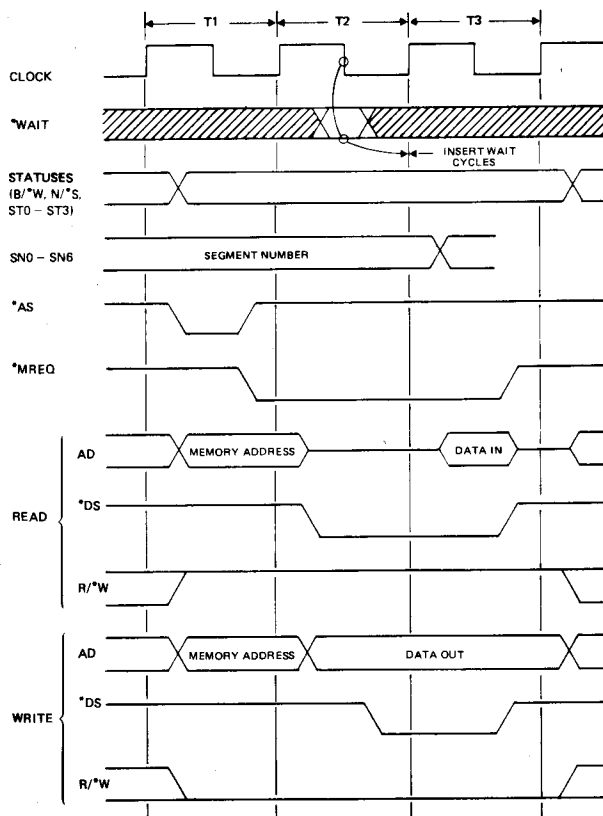

Fig. 2-14 Memory Read and Write Timing
**Memory Read or Write** - Figure 2-14 shows the memory read and write timing for the Z8001. Memory transactions move data to or from memory. They are used to fetch instructions from memory and fetch and store memory data. They also store old program status and fetch new program status during interrupt and trap handling and after reset. Memory read or write and instruction fetch operations are identical, except for the status information on the status lines.